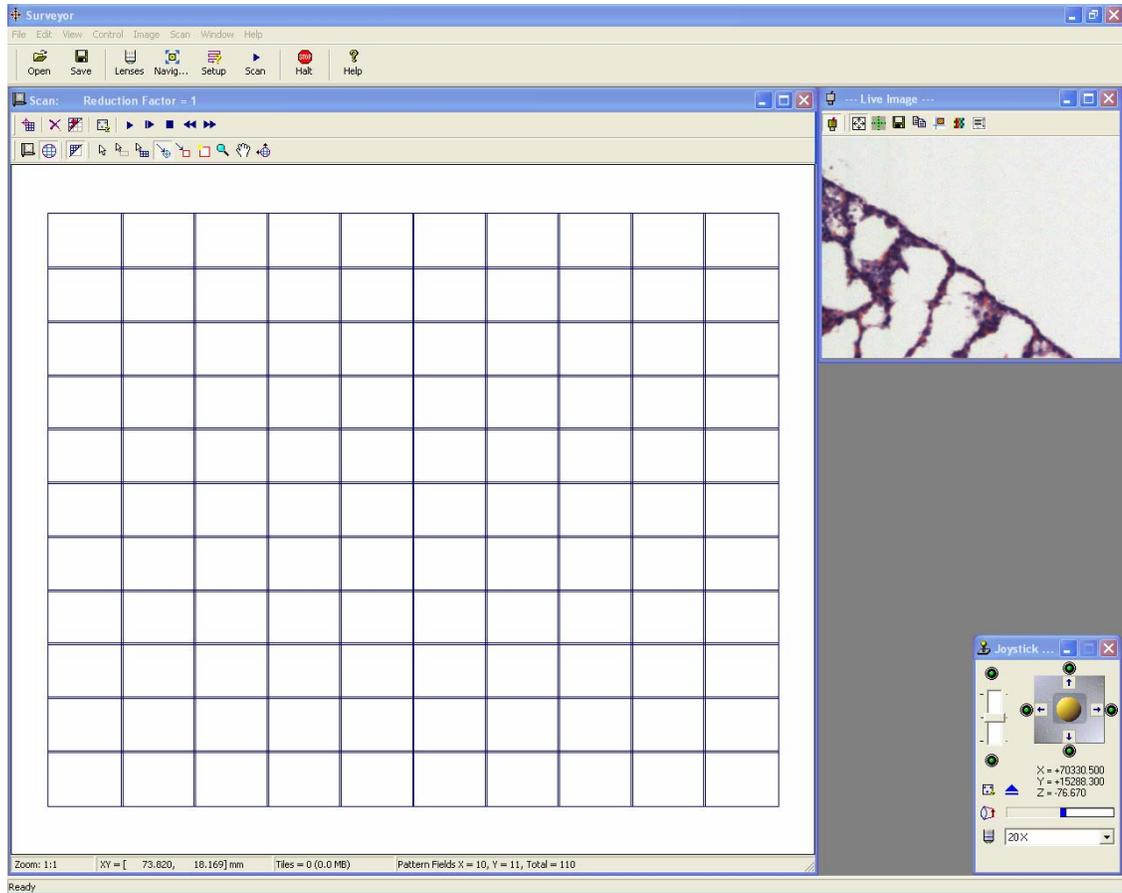

Fig. 13
- Now switch to the Map View by clicking on the button. Your screen will look something like Fig. 13 (below).